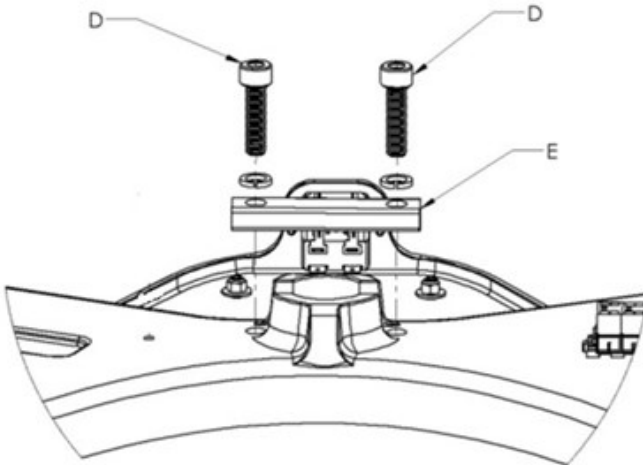

Figure 8: M8 screws and attachment bar.
- On the base, remove two (2) M8 screws, washers (D), and attachment bar (E) using the 6mm Allen key. Place hardware aside for reassembly. Refer to Figure 8.